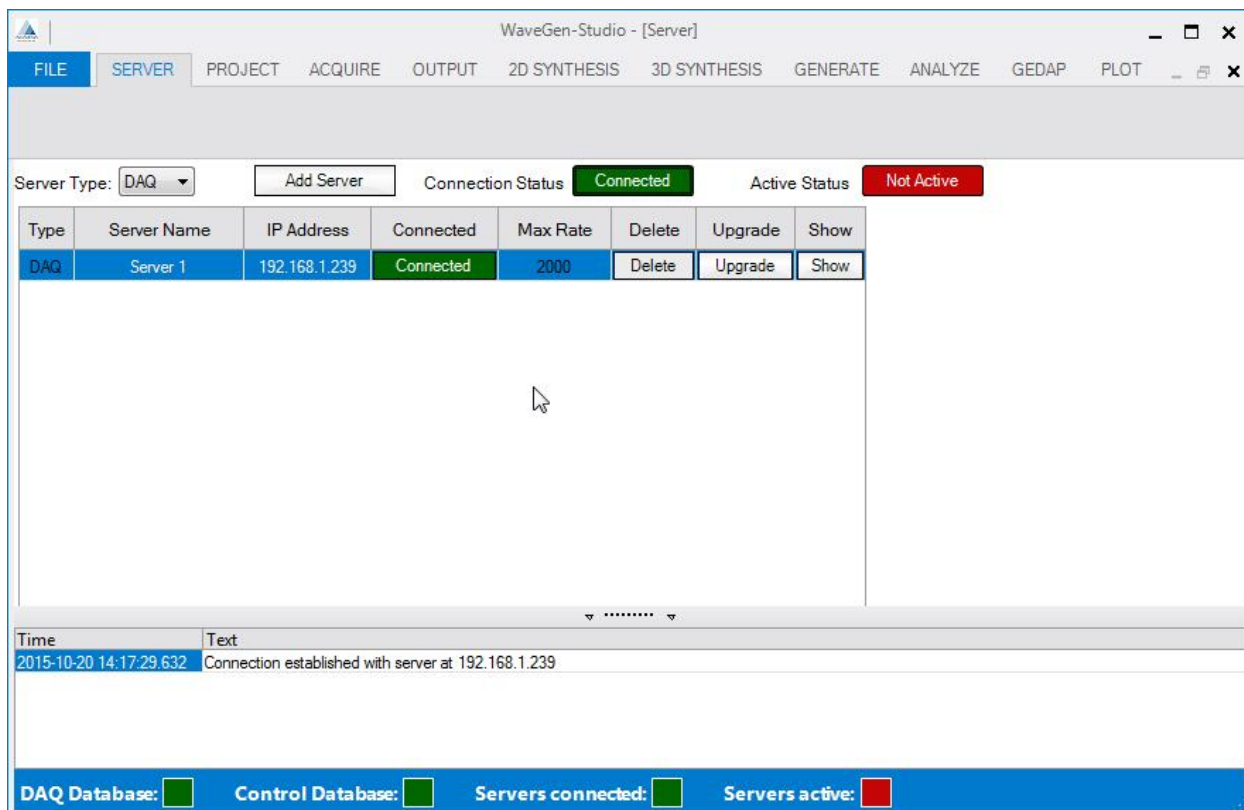

Figure 8: WaveGen-Studio Start-up-With Database and Server
- c) In the most common start-up situation, the **database will exist and at least one server will have been connected** at some point in time. With this information, WaveGen-Studio automatically attempts to connect to the database and any servers defined in the database. If the connections can be established, the window shown in Figure 8 is displayed. Note: the message in the Message Window section indicating that a connection to the server was established. The indicators in the status bar at the bottom of the window indicate: DAQ database is connected (green), the server is connected (green) and the server is not collecting data (red).